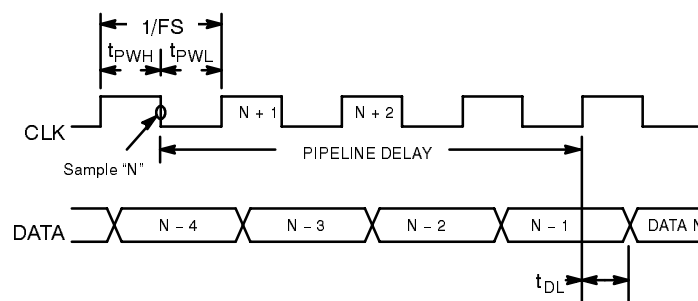

Figure 6. Data Available Timing
Clock Timing (See Figure 6.) ⁷
A full conversion (sampling V_{IN} , converting MSB & LSB, and performing any error correction) requires four clock cycles to complete (see Figure 6.) The pipelined architecture allows the chip to maintain a one conversion per cycle sample rate. Digital logic combines the MSB and LSB data and performs error correction to produce 8-bit output codes.
For systems that are battery powered, the MP8786 has a power down feature to help extend battery life. When the voltage at the V_{RT} pin drops below 0.4 V, the chip goes into power down mode. In this state, conversions are halted, the outputs are 3-stated and I_{DD} drops to less than 100 μA . Then, when the voltage at the V_{RT} pin rises above 0.9 V, the chip will power up. Note that after power up, four clock cycles are required to get valid data at the digital outputs (see Figure 6.) One way to achieve power down is to disconnect or disable the buffer/amp driving V_{RT} , and let the internal reference resistance pull V_{RT} down. Remember, any bypass capacitors at V_{RT} will increase the time for V_{RT} to drop below 0.4 V.
2. It is important to note that op amps have inductive output impedances at high frequencies which is a consequence of the emitter impedance of the typical push-pull output stage. The resulting transient ringing should be damped by inserting a resistor in series with the ADC input – typically about 50 Ω . See Figure 6. The exact value may be obtained from the op amp manufacturer's data sheet.
Refer to Figure 6. for details on the data availability timing. The digital outputs should not drive long wires or buses. The capacitive coupling and reflections will contribute noise to the conversion. The output enable pin (\overline{OE}) should not be left unconnected. If it is not controlled by an active signal, it must be tied to ground.